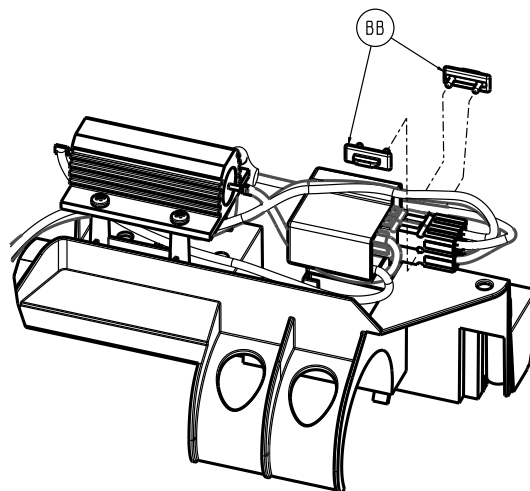

Figure 9 –
5. Remove and save the two retention clips (BB) (Figure 9).